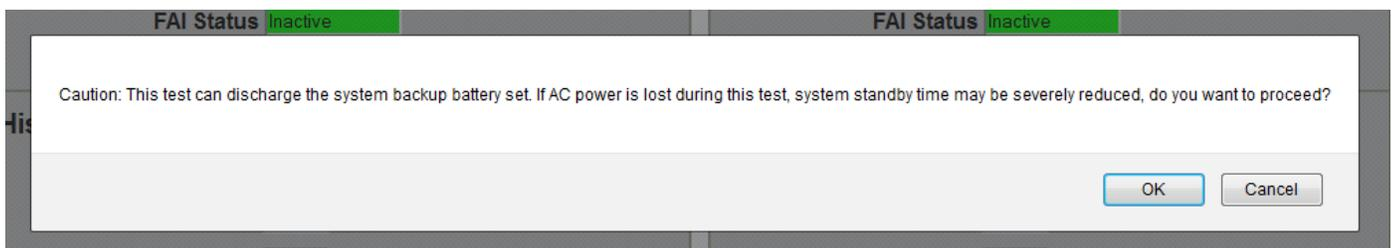

Figure 3.4 - Battery Run Time Test Warning
- Click the "Start Manual Test" button. A warning message will appear (See Figure 3.4). Click OK to begin the test.